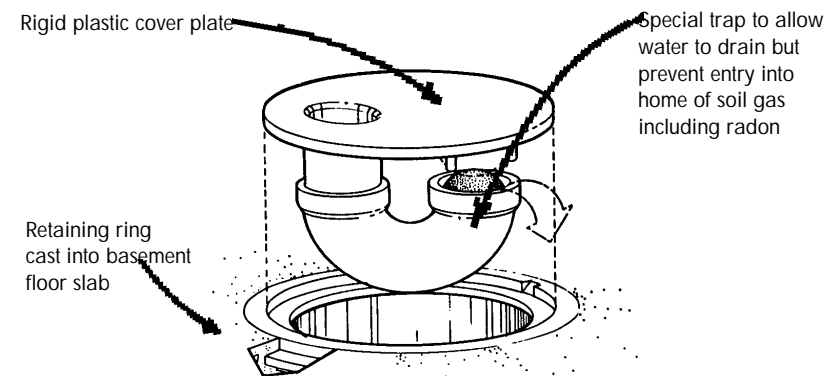

Figure 18: Trap for new floor drains
- **Install special traps in floor drains that allow water to drain but prevent radon from entering the basement (see **figure 18**).** These traps have the added benefit of keeping out moulds, odours, insects and cold drafts. However, they are not a substitute for a sewer back-up valve.